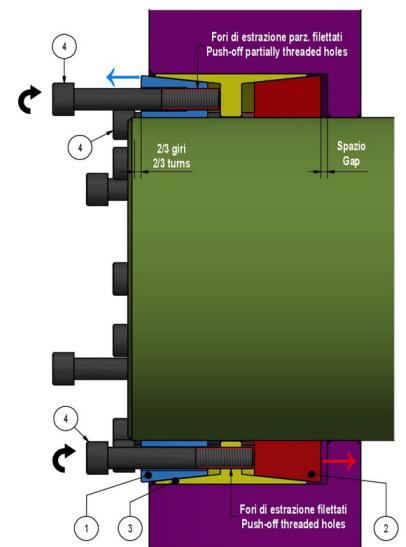

Fig. 2 Disengagement of thrust rings and positioning of Locking Assembly
2. **For ease of installation, thrust rings shall be disengaged (fig. 2).** Loosen all screws by two/three turns; then transfer and hand tighten at least two screws into the push-off threaded holes in the front thrust ring and at least two screws into the push-off threaded holes in the outer ring, accessible via corresponding clearance holes in the front thrust ring.
3. Insert Locking Assembly into the hub bore and make it slide onto the shaft, making sure that connected components are positioned as required. **Thrust rings and outer ring shall be completely supported by shaft respectively hub bore (fig. 2).** At this point, relocate the screws used to disengage the thrust rings. Installation into hubs with shoulder requires a few mm's gap between rear thrust ring and shoulder (fig. 2).